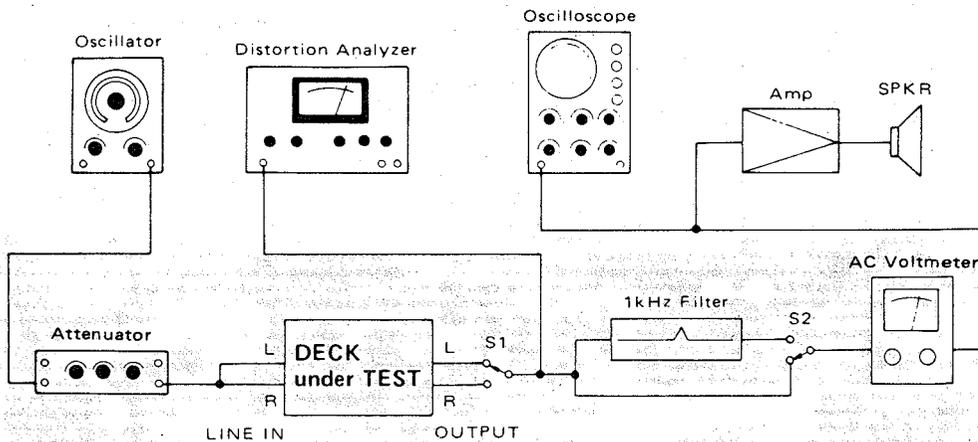

Fig. 5-1 Basic test setup
15. Erase efficiency 消去効果	Connection is same as in Fig. 5-1, but engage 1-kHz filter. Record a 1-kHz signal. Rewind tape to midpoint of recorded portion. Erase the recorded portion with no input signal. Find the difference between the 1-kHz portion and the "no-signal" portion. 接続Fig.5-1.1kHz B.P.F.使用、1kHz信号を録音後中間まで巻戻し一部を消去、未消去部分と消去部分の1kHz出力レベル差を測定。
16. Channel separation チャンネル セパレーション	● Connection: Fig. 5-1, but do not connect LINE IN (R), and engage 1-kHz filter. ● Set the deck to record mode. Find the difference between the 1-kHz recorded portion (L-ch) and the "no signal" portion (R-ch). R-ch無接続、1kHz B.P.F.使用、1kHz録音部分(L-ch)と無信号録音(R-ch)の1kHz再生出力レベルの差を測定。
17. Adjacent track crosstalk トラック間クロストーク	<ul style="list-style-type: none"> ● Connection: Fig. 5-1, but do not connect LINE IN (L) and OUTPUT (L). ● Record a 125-Hz signal on R-ch and note output level. Invert tape and play R-ch track. Check leakage level against the output reference of previously recorded portion. L-ch無接続: R-chに125Hzを録音し、その再生出力を基準レベルとする。次にテープを反転し、再生したときのR-ch出力レベルとの差を測定。
18. REC MUTE function REC MUTE効果	Connection: Fig. 5-1, but engage 1-kHz filter. Record a 1-kHz signal. Push REC MUTE button for several seconds. (At this time, make sure LED lights). Rewind and play the tape. Find the difference between the 1-kHz portion and the "no-signal" portion. 1kHz B.P.F.使用, 1kHz信号を録音し、途中REC MUTE鈕を押し無信号部を作る。そのテープを再生し、録音部と無信号部の出力レベル差を測定。